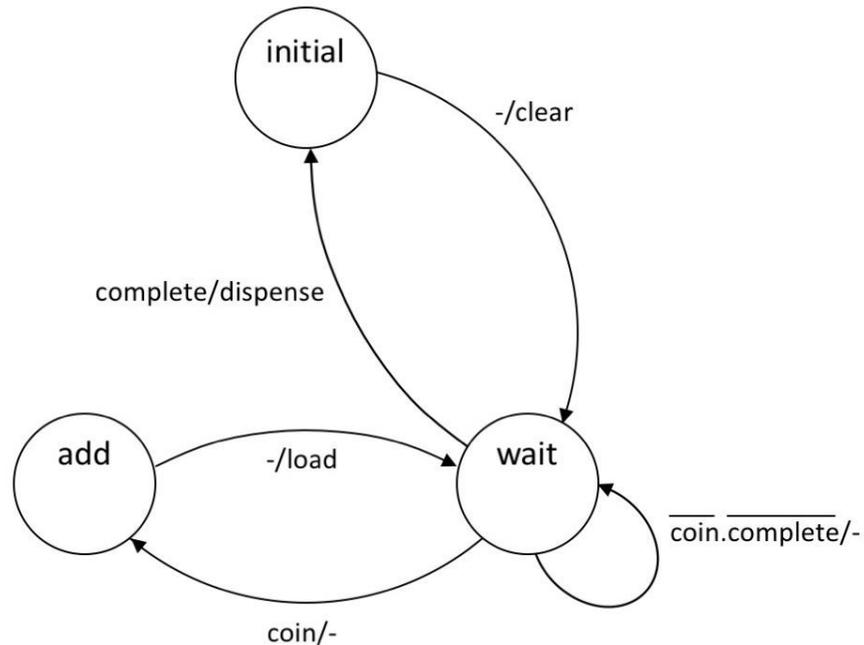

Figure Q3.5
- b) Figure Q3.5 illustrates the state transition diagram for the vending machine controller FSM, which has been designed as a Mealy machine.
- c) Identify suitable state vectors for each state in the state transition diagram in Figure Q3.5 and complete a state transition table for the controller. (7 marks)